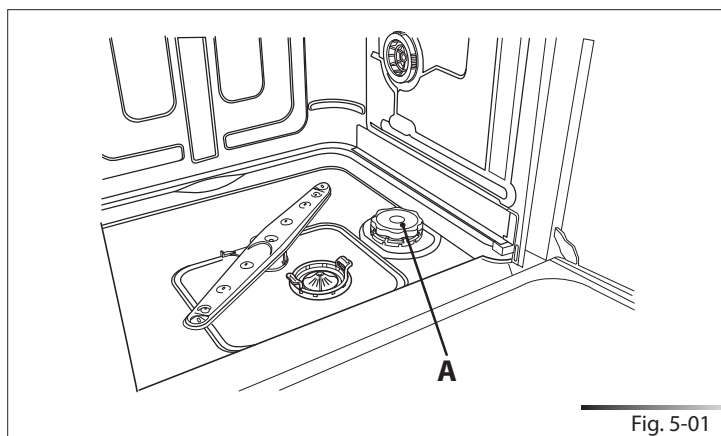
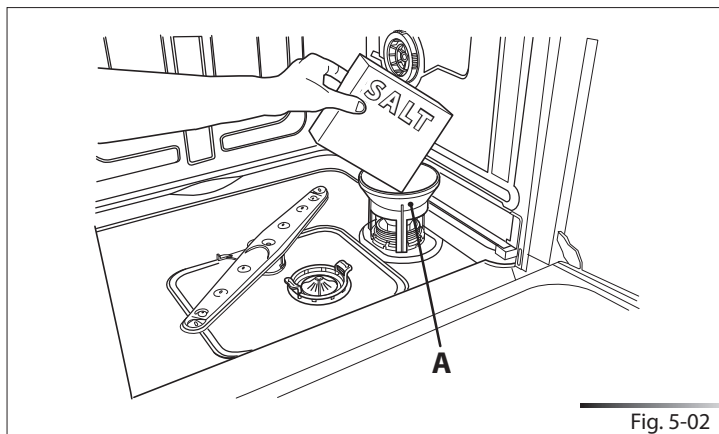

Fig. 5-01
Fig. 5-02
The amount of scale contained in the water (water hardness index) can cause whitish staining on the dry dishes, which tend to become dull over time. The dishwasher is equipped with an automatic softening system which uses a special regenerating salt to reduce the hardness of the water. The dishwasher is factory set for water hardness level 3 (average hardness **41-60°F – 24-31°dH / 23.6-35 gpg**). When using water of medium hardness, the regenerating salt container should be refilled after approximately 20 washing cycles. The salt container can hold approximately **1.7 Kg (3.75 lb)** of salt in grains. Some models are equipped with an optical no-salt indicator. In these models, the cap of the salt container contains a green float which descends as the salt concentration in the water drops. When the green float can no longer be seen, the container must be topped up with regenerating salt. The container is situated at the bottom of the dishwasher. After removing the lower rack, unscrew the salt container cap (ref. A fig. 5-01) by turning it anticlockwise and pour in the salt using the funnel (ref. A fig. 5-02) supplied with the dishwasher. Before replacing the cap (ref. A fig. 5-01), remove any salt residues from around the opening.
- Each time the salt container is refilled, make sure **that the cap (ref. A fig. 5-01) is securely closed**. The mixture of water and detergent must never penetrate the salt container, as this would compromise the operation of the regeneration system. In the event of this occurring, the warranty will be invalidated.